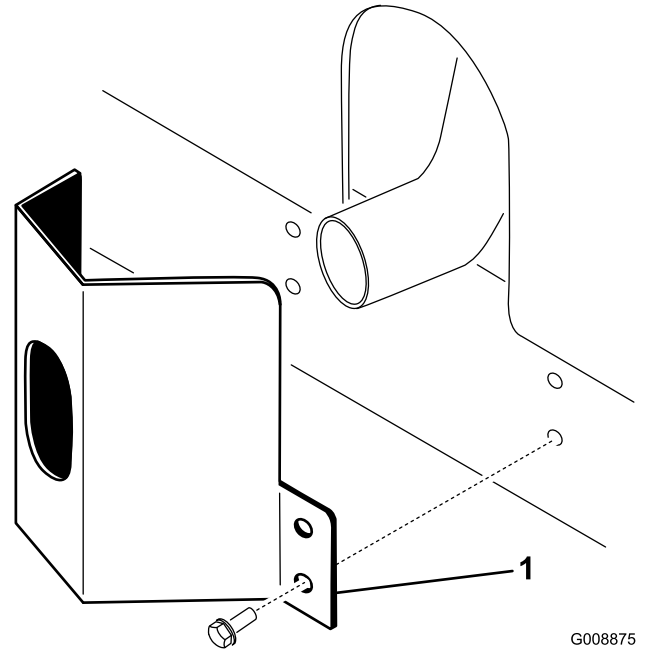

Figure 10
1. Position the exhaust guard around the muffler while aligning the mounting holes with the holes in the frame (Figure 10).
2. Secure the exhaust guard to the frame with 4 self-tapping screws (Figure 10).